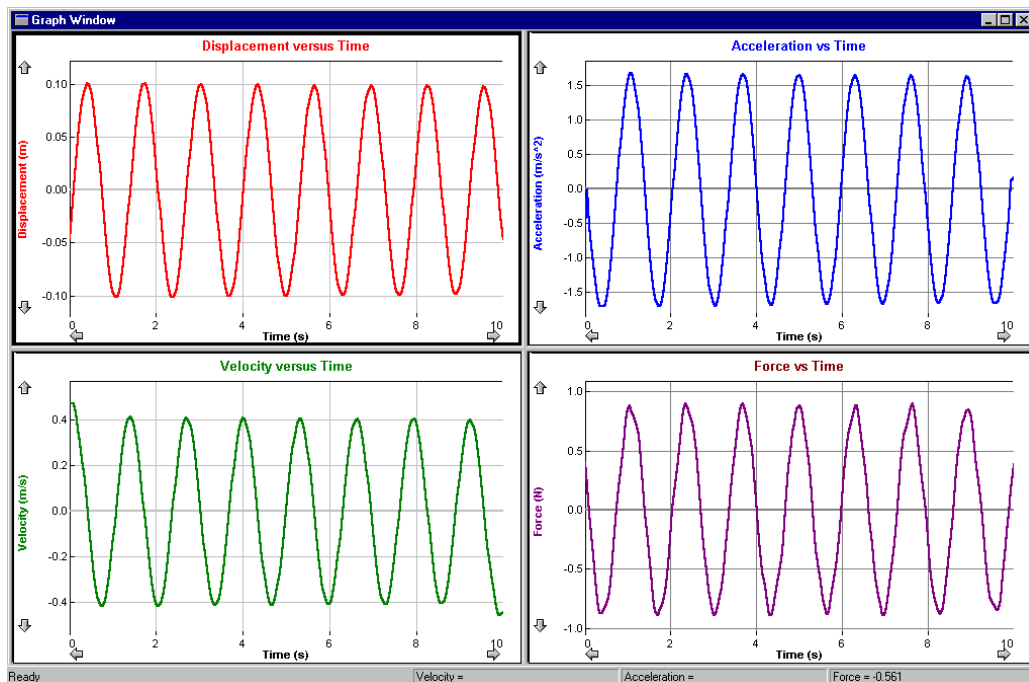

Figure 2 Sample data for a 250 g oscillating mass.
3.1 Now you are to collect data for an oscillating mass. The screen should show four panes – the top left displaying Displacement versus Time, the bottom left displaying Velocity versus Time, the top right displaying Acceleration versus Time, and the bottom right displaying Force versus Time. See Figure 2.
3.3 Raise the mass **no more than 10 cm**, and carefully release it. The mass should move smoothly up and down, with no side-to-side motion, and the spring should not be quivering. After a few oscillations have passed, begin collecting data. Sample data is shown in Figure 2.